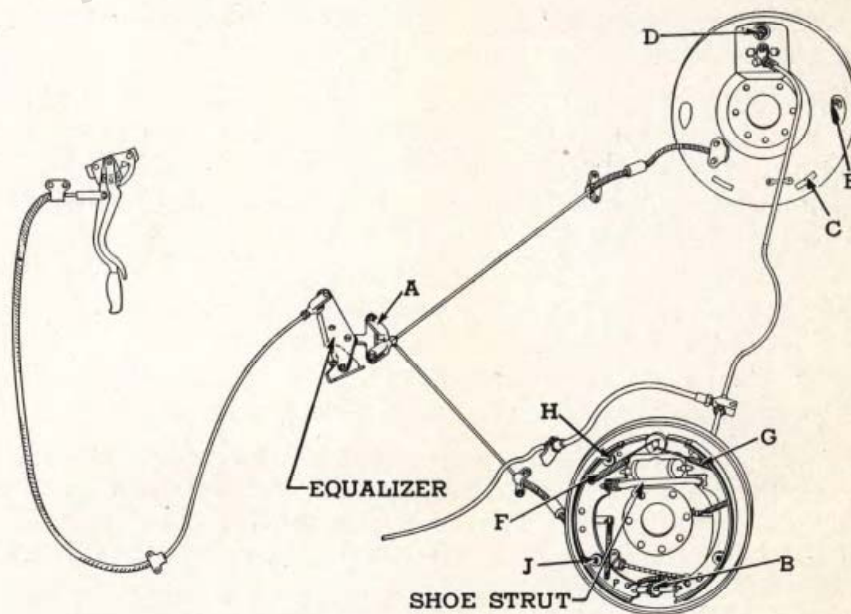

Fig. 34—Chassis Brake Diagram Showing Points of Adjustment. Brake Input Effort on the Twelve is Assisted by a Vacuum Power Unit Shown in Fig. 36
1. Jack up all 4 corners of car and remove wheels. Place hand brake lever in fully released position. If doubtful regarding full release of hand brake, remove the pin at either one of the hand brake cable clevises "A," Fig. 34. Remove adjusting hole covers "C" from backing plates.
1. Jack up all 4 corners of car and remove wheels. Place hand brake lever in fully released position. If doubtful regarding full release of hand brake, remove either one of the clevis pins at "A," Fig. 34. Remove adjusting hole covers "C" from each backing plate and from each drum.
Insert a .010 inch feeler blade between lining and drum at lower end of secondary shoe (rear shoe) and turn eccentric "E," Fig. 34, towards front of car until feeler is just firmly gripped then tighten lock nut.